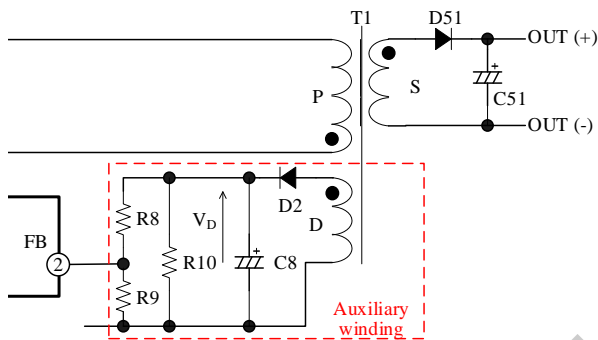

Figure 11-4. Detection by Auxiliary Winding
Without an optocoupler, the secondary output voltage is controlled by detecting the voltage coupled by the secondary output and the transformer in the primary side, using the auxiliary winding, D, as shown in Figure 11-4. The relation between the smoothing voltage, V_D , and the secondary output voltage, V_{OUT} , is determined by the ratio of the auxiliary winding turns, N_D , and the secondary winding turns, N_S , as shown in Equation (2).